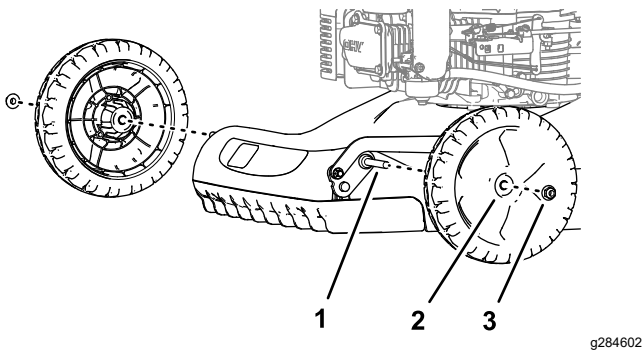

Figure 5
1. Remove the flange locknut (3/8 inch) that secures the wheel to the axle, and remove the wheel (Figure 5).